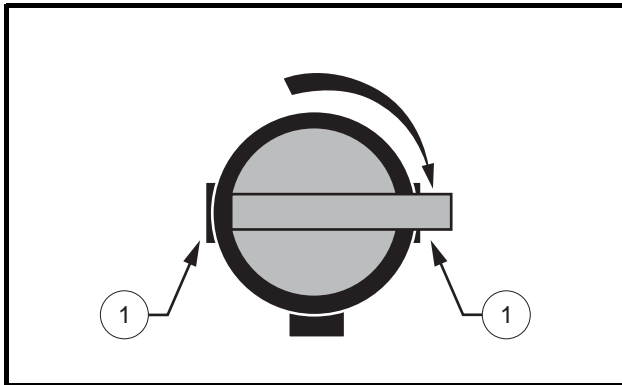

Figure 11 Fuel Shut-off Valve – Closed Position
- Gasoline vehicles only: Turn the fuel shut-off valve to the closed (OFF) position (Figure 11, Page 27).
- **Turn the fuel shut-off valve to the closed (OFF) position (Figure 11).**
- 2.1. Place the Forward/Reverse handle in the NEUTRAL position and the neutral lockout switch in the MAINTENANCE position. Turn the fuel shut-off valve to the closed (1) (OFF) position (**Figure 11**) and run the engine until fuel remaining in the carburetor and fuel lines is depleted and the engine stalls. Return the neutral lockout switch to the OPERATE position.
- Turn the fuel shut-off valve to the closed (OFF) position (Figure 11, Page 27).